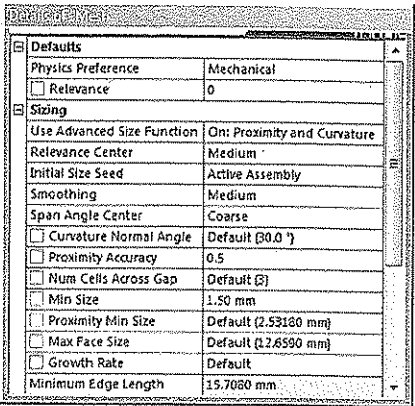

Figure 10-41 The Details of "Mesh" window
- 8. Enter **1.50** in the **Min Size** edit box, refer to Figure 10-41.